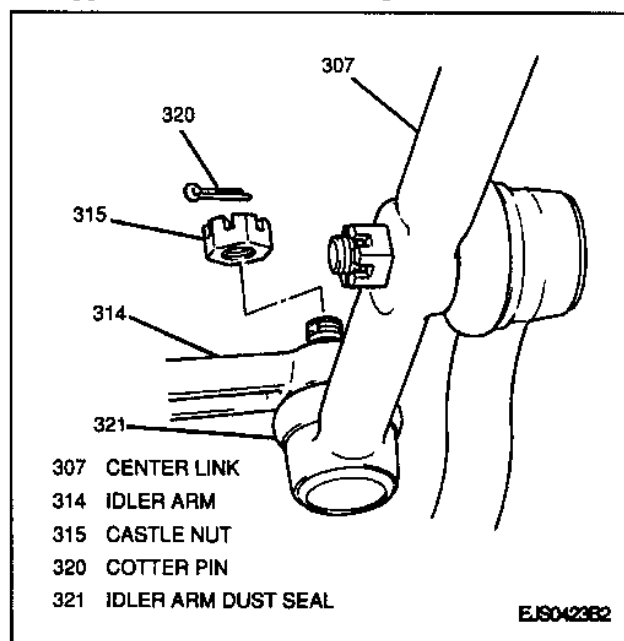

Figure 12—Idler Arm Castle Nut
Figures 12 through 15
2. Cotter pin and idler arm castle nut from center link (Figure 12).